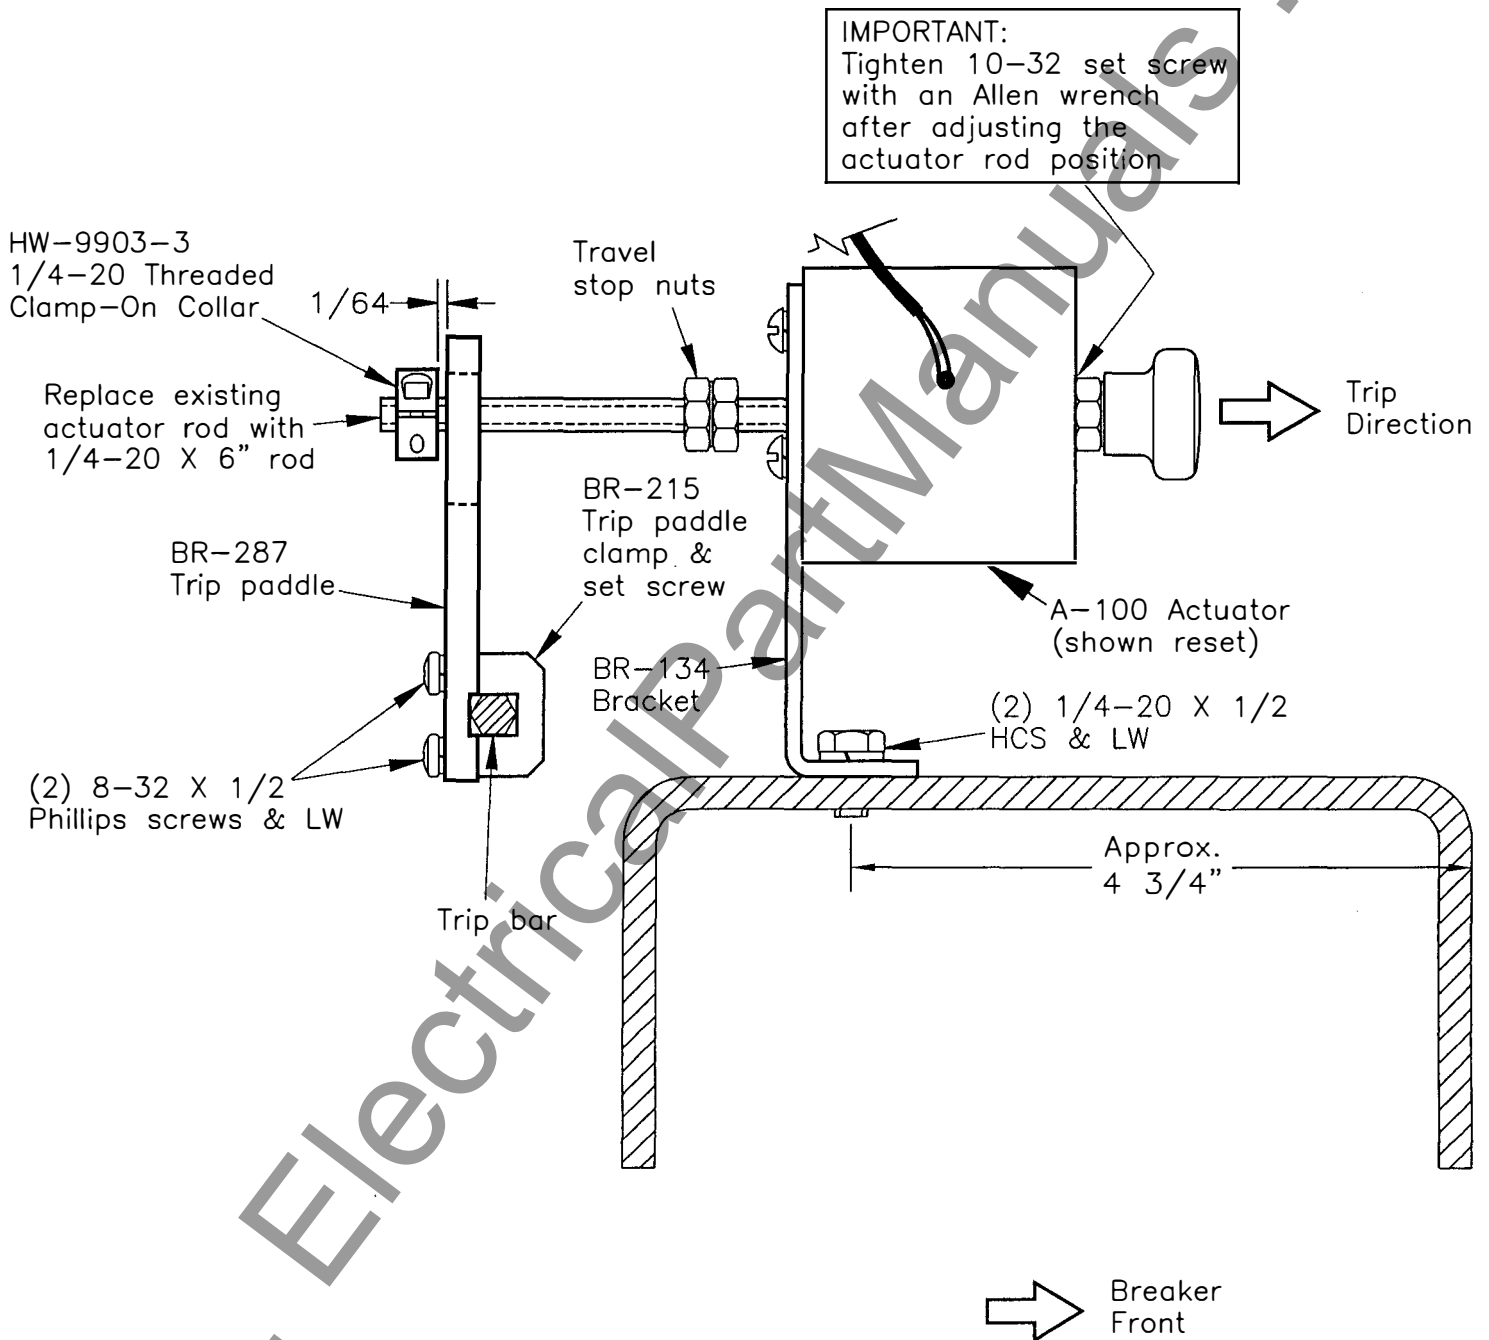

FIGURE 3
- 1) Thread the actuator rod so the reset knob and 1/4-20 nut are up against the actuator plunger as shown in Figure 3.